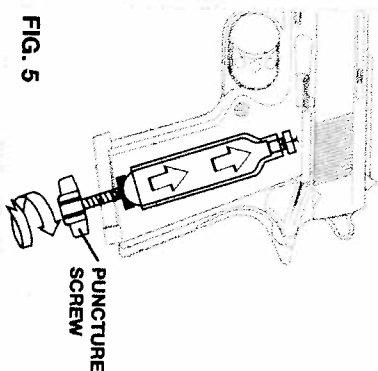

FIG. 5
6. With muzzle pointed in a safe direction, turn puncture screw clockwise to puncture the CO2 cylinder (see Fig. 5). Continue turning RAPIDLY until finger tight.